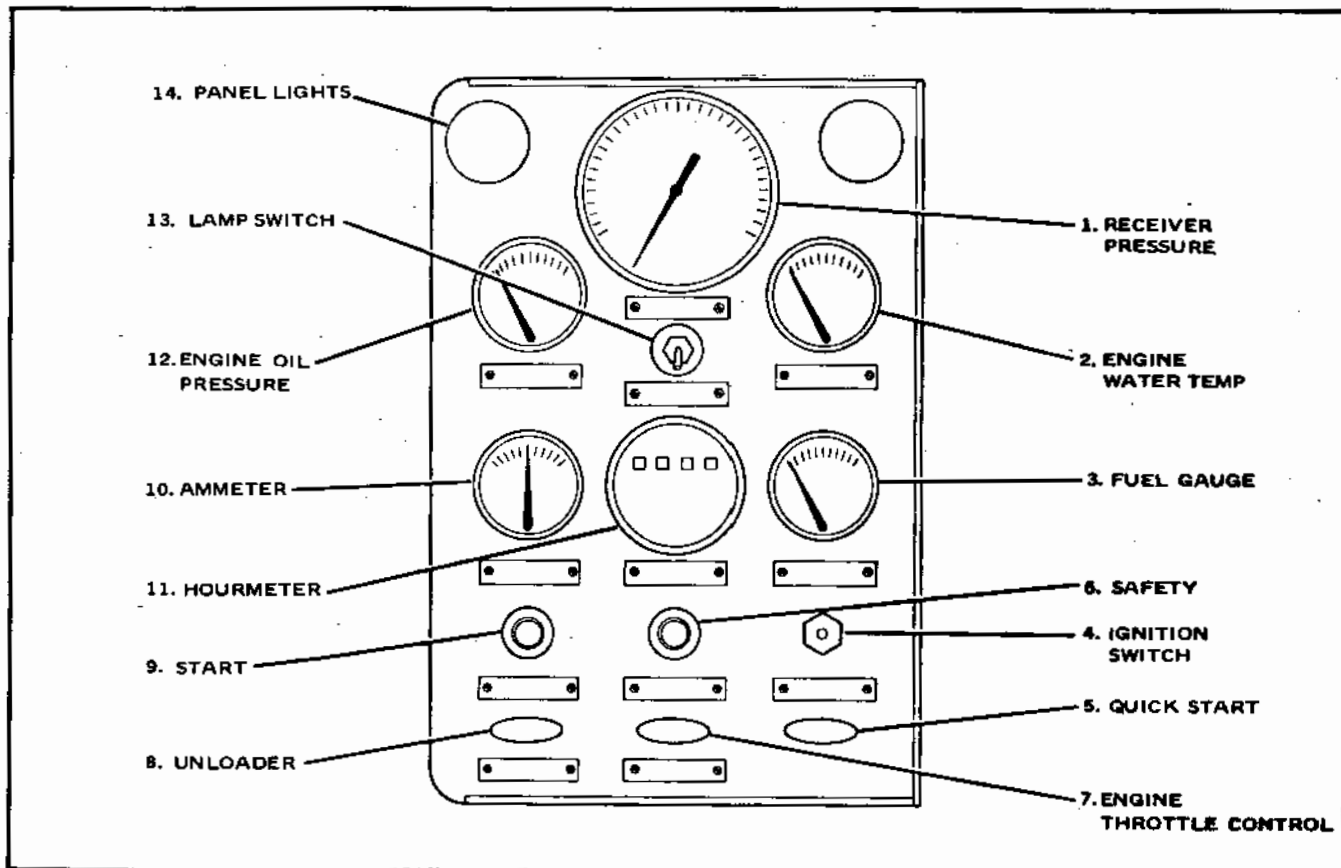

Figure 2-2. Instrument Panel Assembly
2-3. OPERATING CONTROLS AND INDICATING INSTRUMENTS. (Refer to figure 2-2).
d. Unlock, pull out and lock UNLOADER control (8, figure 2-2).
e. Unlock, pull out and lock ENGINE THROTTLE CONTROL (7, figure 2-2).
f. In cool weather, below 40°F (4.4°C), unscrew cap of cold weather starting aid and place ether cylinder in holder. Hand tighten cylinder. Make certain actuating lever is free to operate. Charge shot valve by pulling QUICK START control (5) out for 3 seconds. Do not press QUICK START control in until after START (9) and SAFETY (6) switches are depressed and cranking has begun. While cranking engine press QUICK START control (5) in.
- g. Pull IGNITION SWITCH (4, figure 2-2) out.
- h. Press and hold SAFETY switch (6, figure 2-2).
- i. Press and hold START switch (9, figure 2-2). Release START switch when engine is running. (Actuate cold weather starting aid handle as necessary).
- j. Continue holding SAFETY switch until ENGINE OIL PRESSURE gauge (12, figure 2-2) indicates above 15 psi and release.
- k. Allow engine to run at idle until ENGINE WATER TEMP. gauge (2, figure 2-2) indicates approximately 140°F.
RECEIVER PRESSURE (1, figure 2-2).....	90 to 100 psig
- b. Unlock, pull out and lock UNLOADER control (8, figure 2-2).
- d. Press IGNITION SWITCH (4, figure 2-2) in.